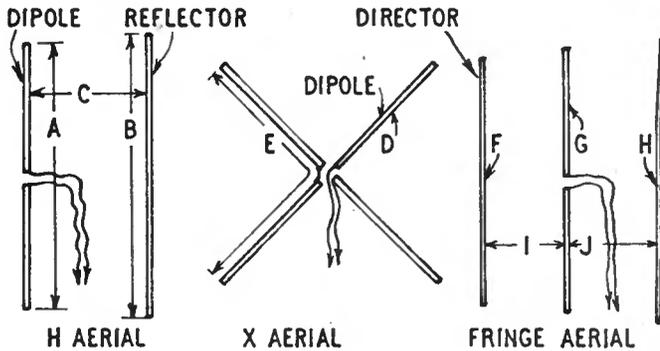

Fig. 1—Most popular types of aerial
Both B.B.C. and I.T.A. aerials are exactly the same except for the length and spacing of the elements. The same kind of construction can thus be used, and the actual arrangements employed will become clear from Fig. 1.
The essential part of the aerial is the dipole element, from which the feeder is taken to the receiver. The overall length of the dipole (A) in Fig. 1 is cut to suit the wavelength of the transmitter. In actual fact, one length would be correct for the vision signal, and another length, a few inches different, would be best for sound, because the two signals are radiated on dissimilar wavelengths. A compromise is thus made, the aerial being some length between the two figures. Some manufacturers use a 'middle' length. Others use a length specially suitable for the vision signal. This accounts for slight differences in exact length of the dipole.
To improve signal strength from a dipole, a reflector element is added behind it. This gives the familiar 'H' type aerial. The overall length of this element, (B) in Fig. 1, is slightly greater than that of the dipole. It is not